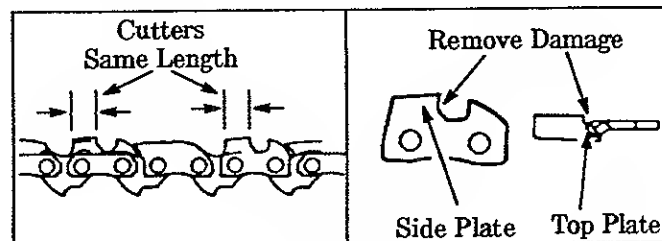

Figure 27
- c.) File from inside toward outside of cutter, straight across on forward stroke in one direction only. Use 2 or 3 strokes per cutting edge. Figure 27.
- d.) Keep all cutters the same length. Figure 27.
- e.) File enough to remove any damage to the cutting edges (side plate and top plate) of the cutter. Figure 27.